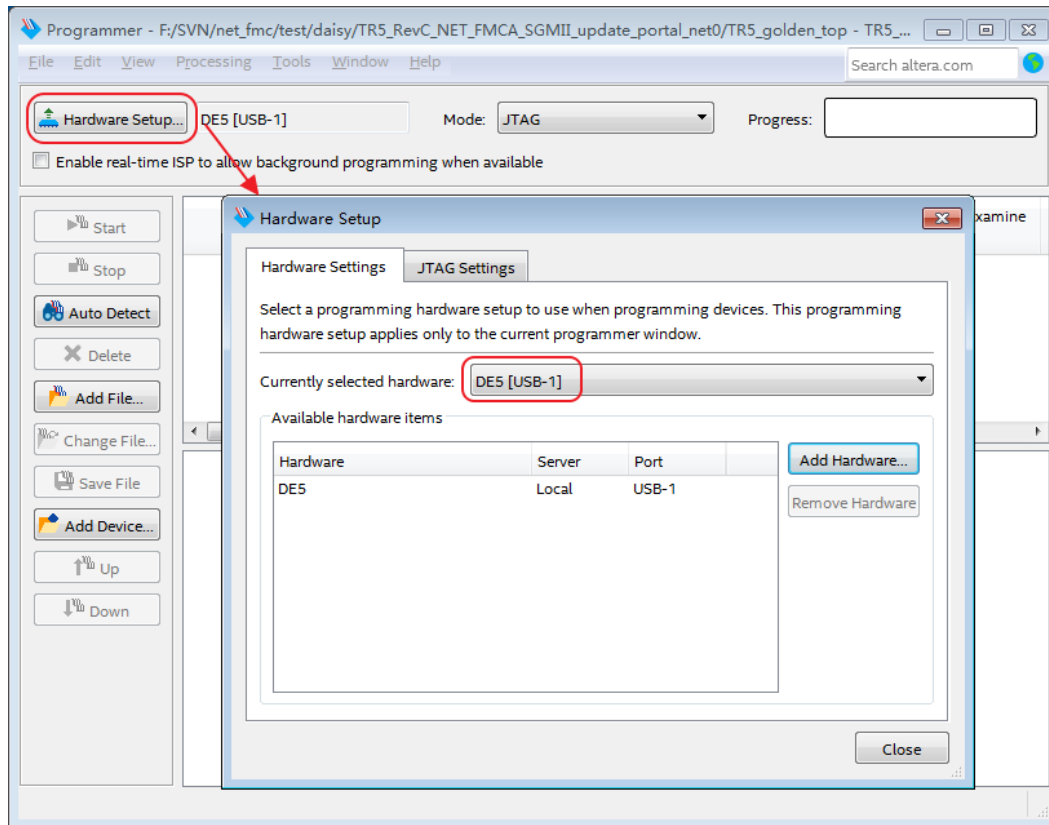

Figure 4-5 Hardware Setup on TR5
- Open Hardware Setup window and choose DE5[USB-1] as shown in Figure 4-5.